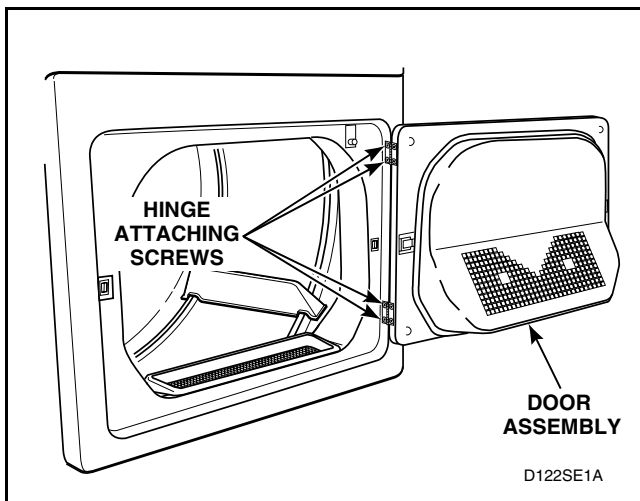

Figure 27
- Support door and remove four screws holding hinges to front panel. Refer to *Figure 27*. Remove complete door assembly.